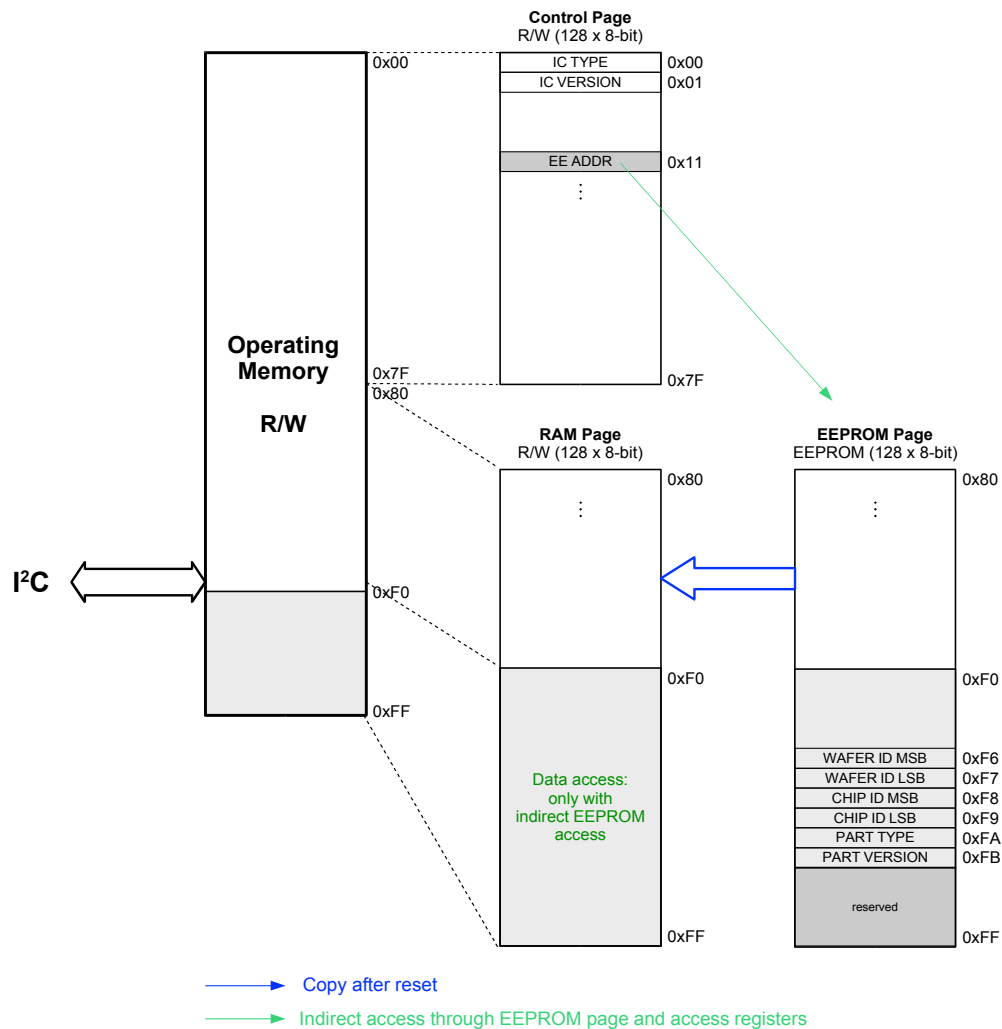

Figure 61: Memory map
The I2C-bus interface allows accessing the RW registers and the programming of the EEPROM registers which store the configuration parameters. It is the only interface through which the configuration registers can be accessed (Figure 61 and Table 33) by the application. It works as a slave device according to the I2C specification (refer to chapter 16.2.) with a transfer rate of up to 400 kbit/s in Fast Mode (FM) or 1Mbit/s in Fast Mode plus (FM+). The I2C master such as an external CPU can set the transfer speed simply by driving the SCL input at that frequency (up to 1MHz), therefore there is no prior register configuration or setting necessary.